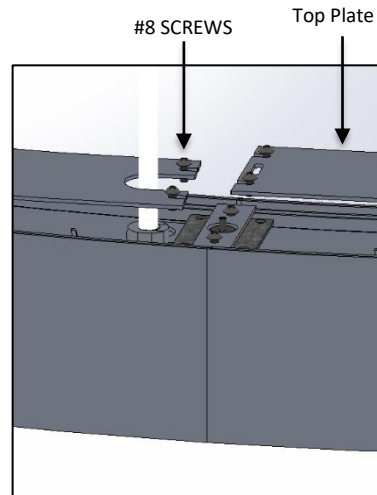

FIG. 27 – TOP PLATE INSTALLATION
25. Install the 8 Aluminum TOP PLATES with the #8 screws provided as shown in FIG. 27.